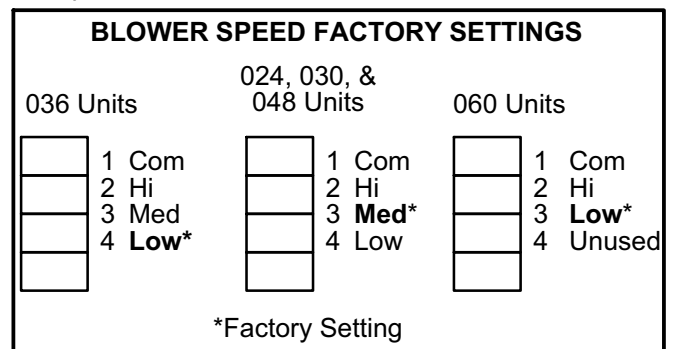

FIGURE 16
- 3- Use figure 16 to determine the factory set blower speed.